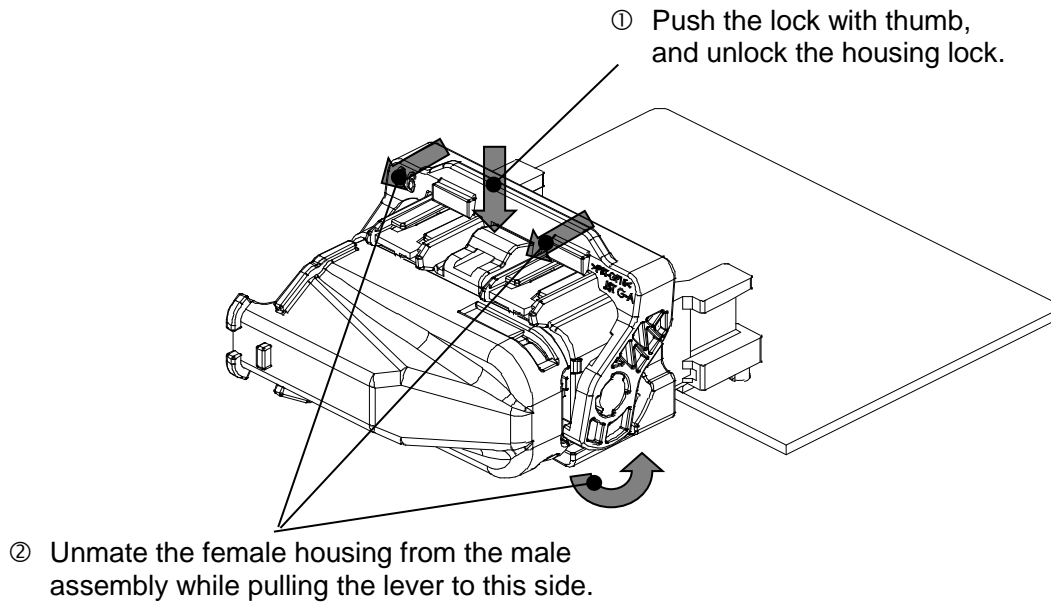

Fig.30
- ① Push the lock of the female housing with thumb and release the housing lock. (Fig.30)
- ② Extract the female housing from the male assembly while returning the lever to this side. (Fig.30)